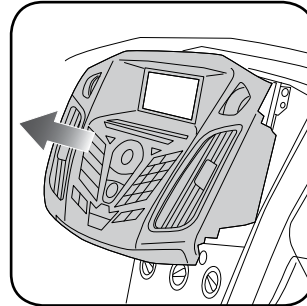

Fig. 1.3
3. Starting at the bottom, pull the bezel forward. At the same time, use a panel removal tool to pry the bezel. (Fig. 1.3) Disconnect the connector at the back of the bezel and put it to the side.